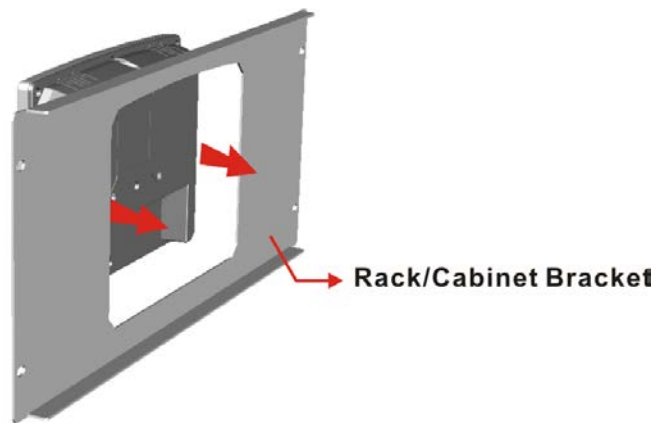

Figure 4-11: The Rack/Cabinet Bracket
Step 1: Slide the rear chassis of the AFL2-12A-HM65 flat bezel panel PC through the rack/cabinet bracket until the aluminum frame is flush against the front of the bracket (**Figure 4-11**).